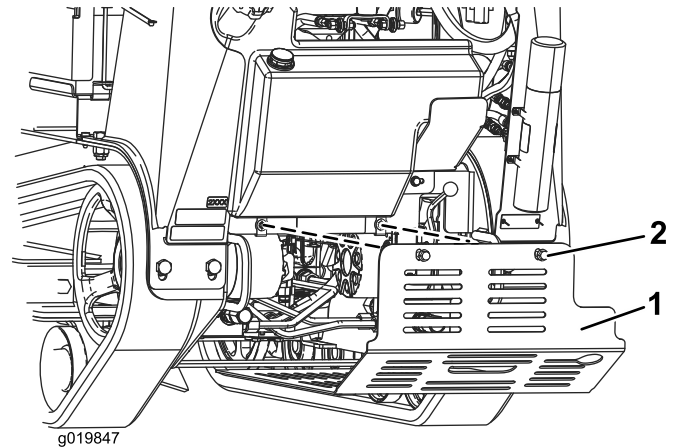

Figure 25
2. Loosen the two bolts securing the bottom shield sequentially until the shield is free (Figure 25).
2. Slide the bottom shield into the machine (Figure 25).